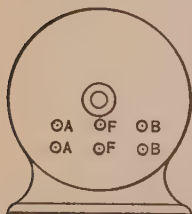

FIG. 128. Compound generator.
**Prob. 6.** In Fig. 128, terminals *A-A* are connected to the armature, *F-F* to the shunt field coils, *B-B* to the series field coils. Show connections for a long-shunt compound generator, with a rheostat in the shunt field.
**Prob. 7.** Connect the generator in Fig. 128 as a short-shunt generator, with a rheostat in the shunt field.